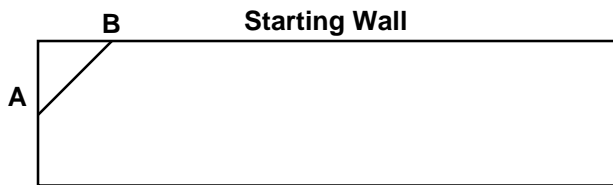

Figure 2
2. Establish the working line for a diagonal installation by measuring 4' to point A & B from the starting corner opposite an exit. See Figure 2.